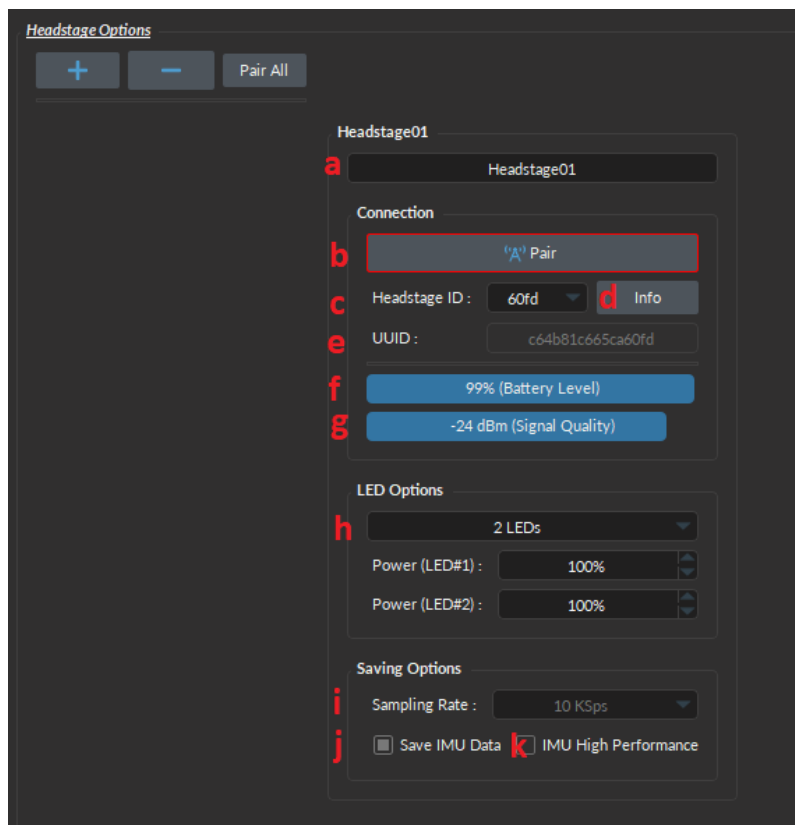

Figure 11.65: Channel(s) configuration window, Wireless Photometry, Headstage Options
- a) The **Headstage01** (Fig. 11.65, a) displays the default name assigned to the first paired headstage. The name can be changed to a custom one.
- b) The **Pair** (Fig. 11.65, b) button is used to link the headstage to the base-station.
- c) The **Headstage ID** (Fig. 11.65, c) displays an ID code assigned to each headstage to facilitate distinguishing them. This ID is actually the last 4 digits of the UUID, displayed for convenience.
- e) The **UUID (Unique Identification Device)** (Fig. 11.65, e) displays a full code assigned to each headstage.
- f) The **Battery Level** (Fig. 11.65, f) displays how full is the battery in percentages. The **Battery Level** will be displayed in 3 colors:
- g) The **Signal Quality** (Fig. 11.65, g) displays the signal strength. The ratio can decrease if the wireless connection channel is occupied by other nearby devices or if the headstage is located at a far distance from the base-station. The **Signal Quality** will be displayed in 3 colors:
- h) The **LEDs Options** (Fig. 11.65, h) displays the LEDs of the headstage separately. This allows to adjust the light output power by choosing the current percentage. Once the UV and blue LEDs are identified it will be always the same due to the hardware structure. Note that, the higher the power of LEDs, the faster the battery will drain. Also, high powers can cause saturation and bleaching issues. Therefore it is recommended to keep the power on the lower end unless the signal is weak.
- i) The **Sampling Rate** (Fig. 11.65, i) is a preset value corresponding to the frequency of sampling of the detector.
- j) The **Save IMU Data** (Fig. 11.65, j) checkbox gives the option to save the information related to animal head direction and movement. In fact, the wireless headstage contains an Inertial Measurement Unit (IMU), which can measure both angular velocity and acceleration data of the animal head movement. This information can be useful for removing motion artifacts from signal and for those who study the head direction behavior.
- k) The **IMU High Performance** (Fig. 11.65, k) checkbox gives the option to acquire the angular velocity data. The acceleration data, though, is always recorded by default. Note that activating this option will slightly increase the battery usage.